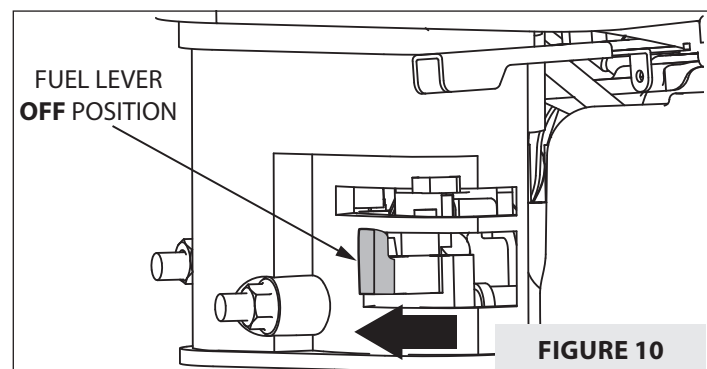

FIGURE 10
3. Move the fuel lever to the **OFF** position. **SEE FIGURE 10.**